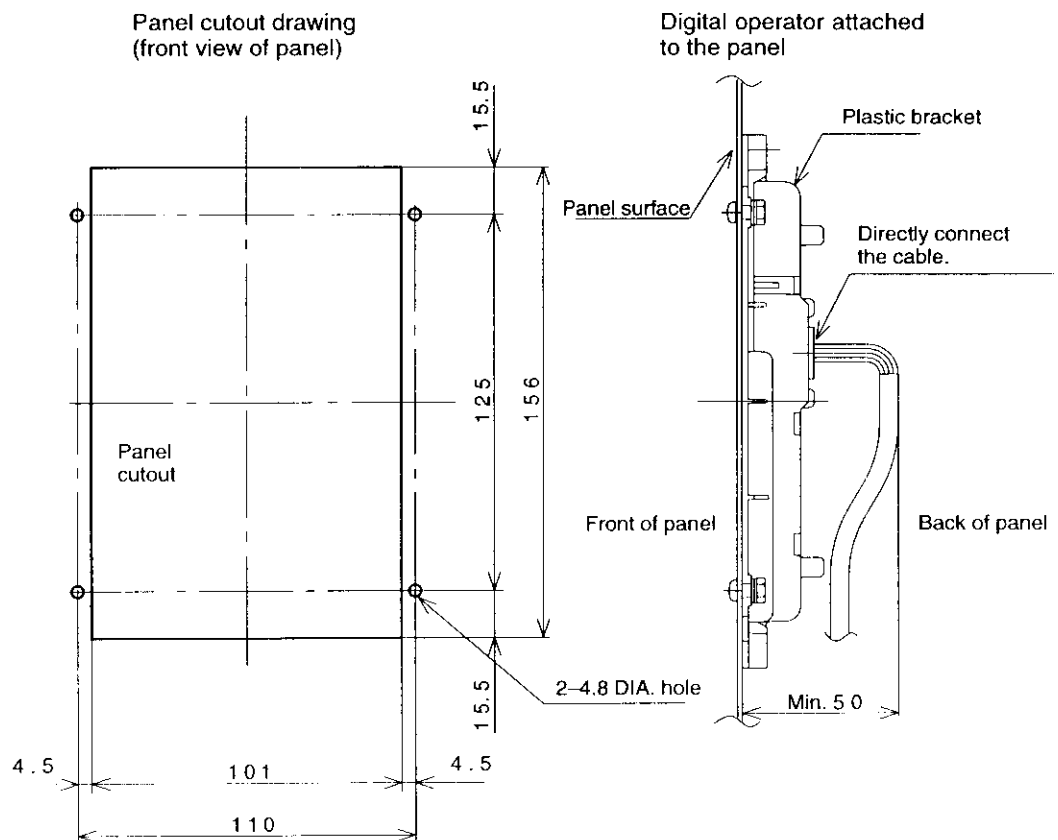

Fig. 4 Method 3
- Provide holes and a panel cutout on the mounting side, attach a plastic bracket to the back of the panel, and attach the digital operator from the front side of the panel, as shown in Fig. 4.